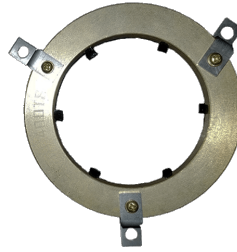

Figure 2 Grounding Ring
8. Mount the grounding ring using the three (3) 10-24 x 1/4" screws. Loosely secure so that the grounding ring can be centered on shaft (Fig. 2.) Make sure the fibers are not running into the keyway of the shaft.